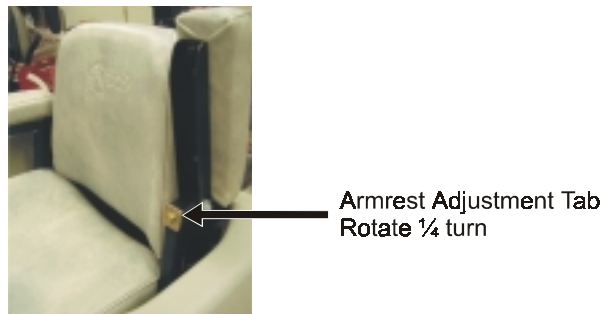

FIG. 13
- a) Lift armrest on seat. Locate square tab marked with the numbers 1 through 4. Rotate square tab 1/4 turn to raise or lower the armrest in approximately 1/4” increments. See Fig. 13.